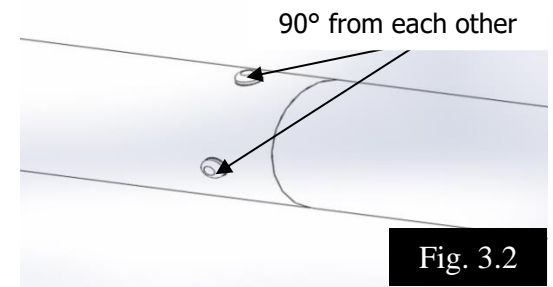

Fig. 3.2
5. Insert the swaged end of the axle extension into the front of your tarp axle. If possible, weld axle extension to tarp axle and let cool fully before proceeding to next step. (If you cannot weld the extension into the roll tube, use the four 1/4" x 1-1/4" self-drilling Phillips head screws that are included in fastener bag to attach the extension). Attach the axle extension to the tarp axle in at least four places at 90 degrees from each other. See figure 3.2.